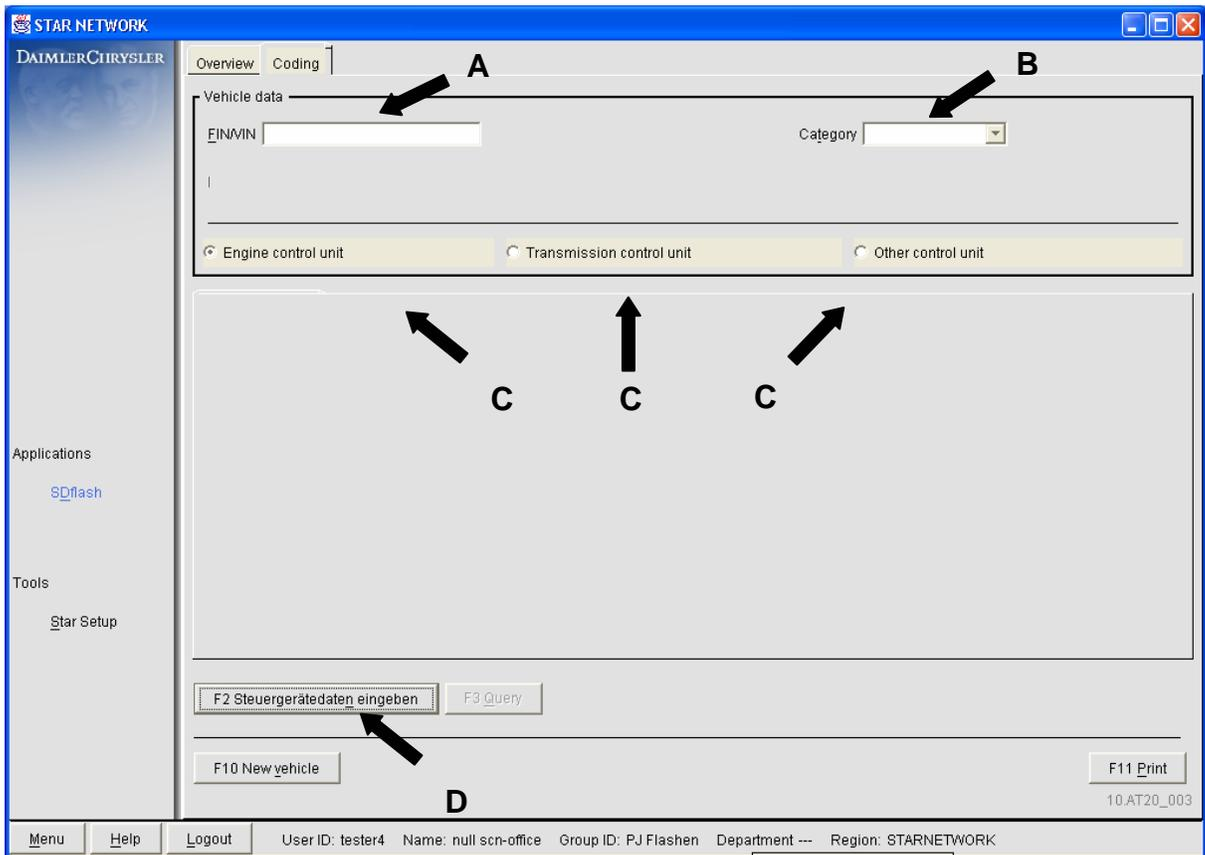

Figure 9
2. Enter data into required fields (Figure 9).